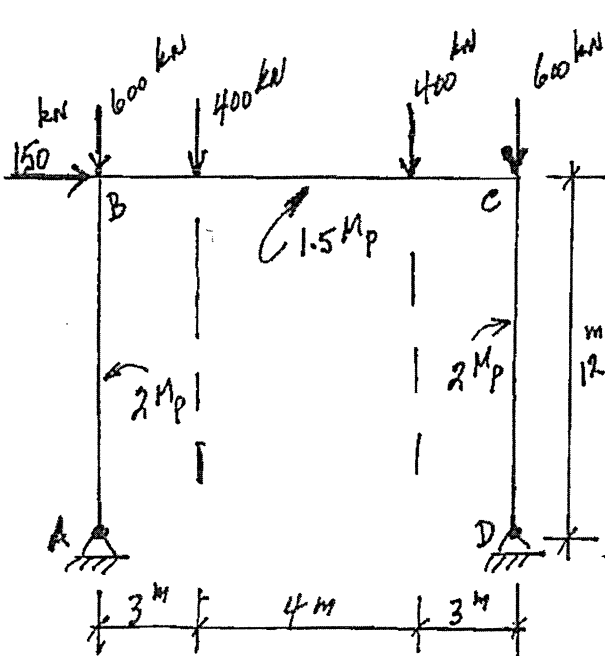

FIGURE 3
3. Use the plastic method of design to choose adequate steel sections for the rigid frame in Figure 3:
6. For the steel structure in Figure 3, check whether the chosen section for the steel beam-column, AB, is satisfactory to carry the given loads.